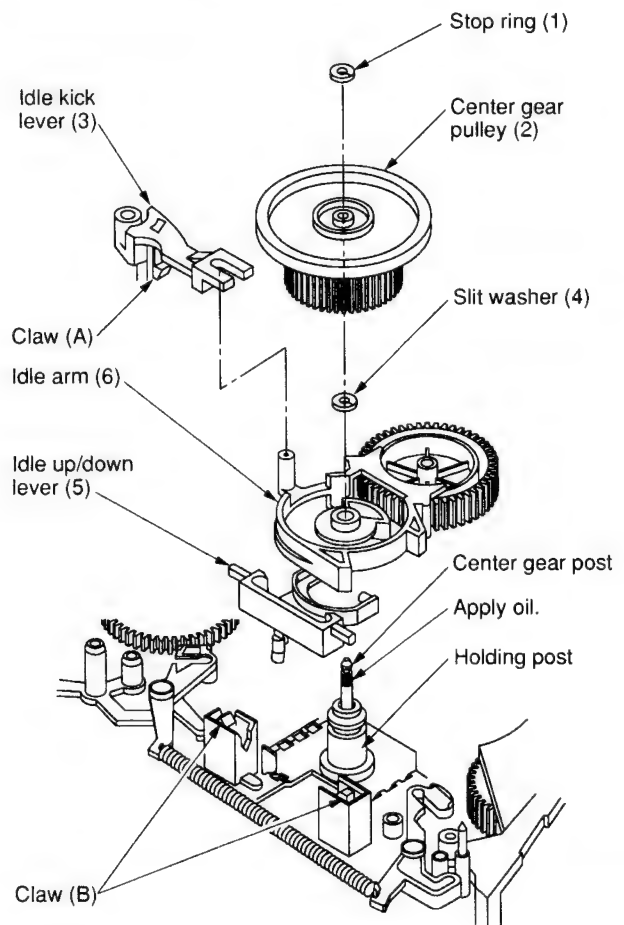

Fig. 6-31-1
- When mounting, push the cutout (A) on the holder center post assembly (2) aligning with the projection on the mechanical deck.
- Before mounting the center gear pulley, apply a few drops of oil. (Refer to Fig. 6-31-1.)